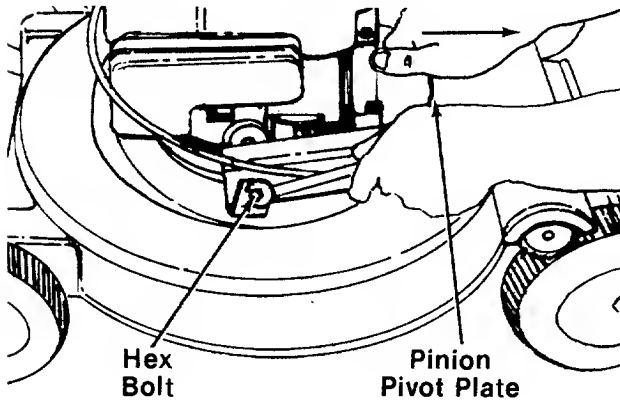

FIGURE 16.
1. Loosen (do not remove) the hex bolt on each side of the pinion pivot plate. See figure 16.